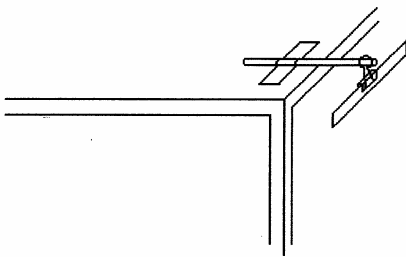

Figure 1
1. Attach the wooden dowel to the table-top with 2 sticker labels. About half of the length of the dowel should overlay the table-top and the other half should extend past the edge of the table-top. (See Fig. 1)
3. Suspend the clip with the attached ruler from the extended portion of the dowel by inserting the dowel through the metal handles of the clip. The ruler should be free to swivel about the dowel at this point. (See Fig. 1)